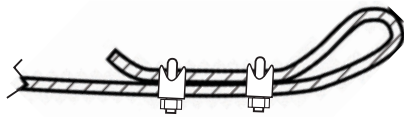

Figure 5
4. Loop secondary support cable through bracket as shown in Figure 5. Secure ends with two cable clamps. Loop other end of cable around any permanent structural member close to fan.